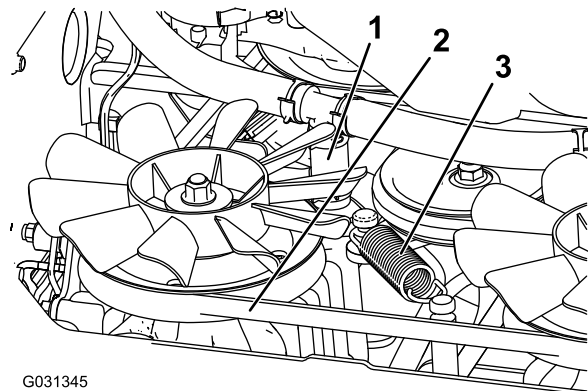

Figure 66
5. Remove the lower hydraulic hose (Figure 66).
6. Remove the tension spring (Figure 66).
7. Remove the deck belt from the clutch and clutch stop (Figure 66).